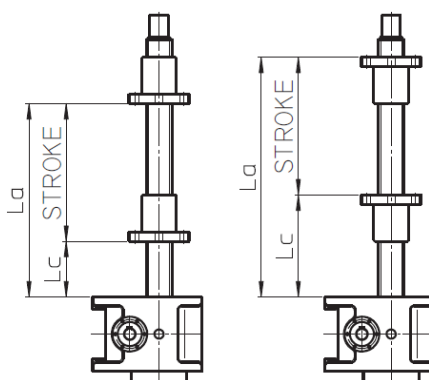

Figure 6.12 – “Lc” and “La” dimensions
- Check if the extreme dimensions of the screw jack “Lc” and “La” (see Fig. 6.12) are compatible with extreme positions of the plant component that has to be moved.